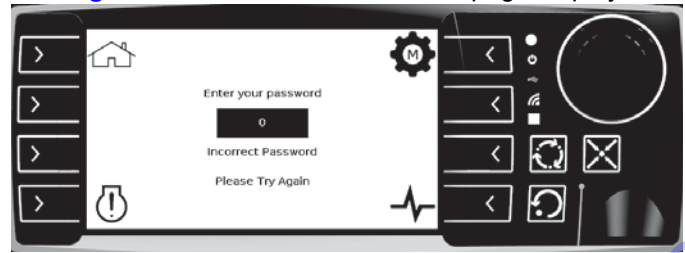

Figure 2-23. Enter Password Page
- See Figure 2-23. The Enter Password page displays.